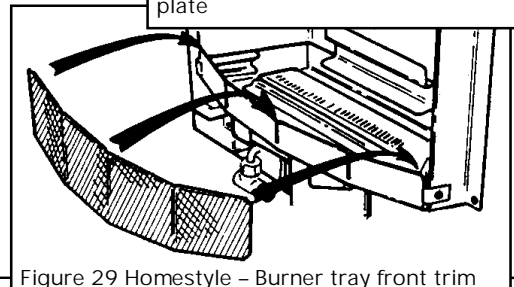

Figure 29 Homestyle - Burner tray front trim
**9.2.4** Clip the burner tray front trim over the burner unit front. Make sure that the trim is secured over all three of the burner tray front flanges. See figure 29.